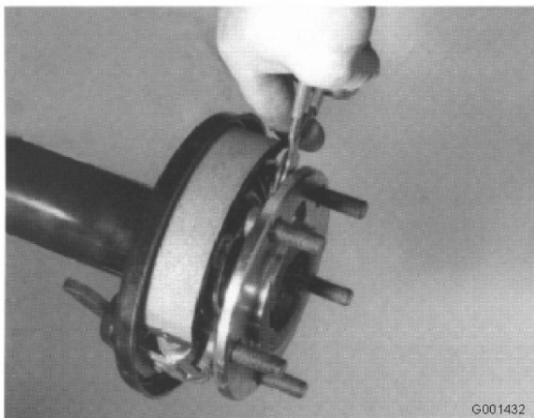

Figure 4
- 1. Remove the snap ring from the end of the tube (Figure 4).